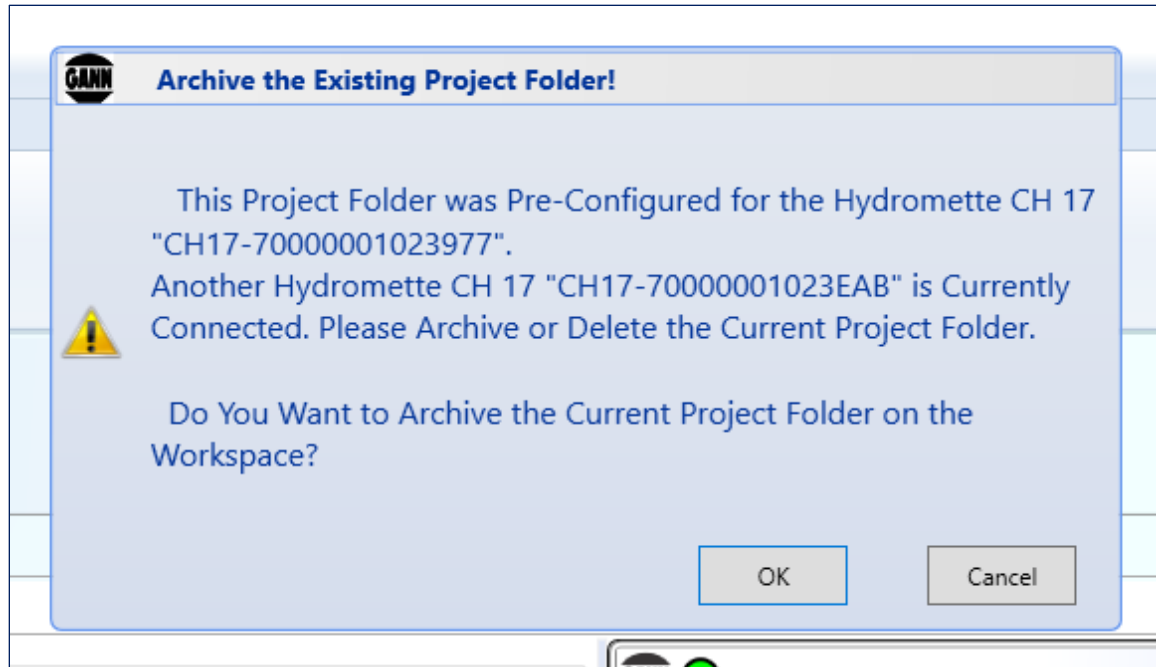

Figure 3-2: archive the existing project folder
**If your project folder is not empty** and you are trying to transfer a project folder from a device with a serial number that is different from the one that the current project folder was created with, the warning in figure 3-2 will appear.